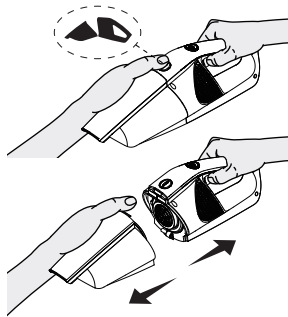

Fig.17
- Press the dust bin release button and separate the dust bin from the handheld vacuum cleaner body (Fig.17).